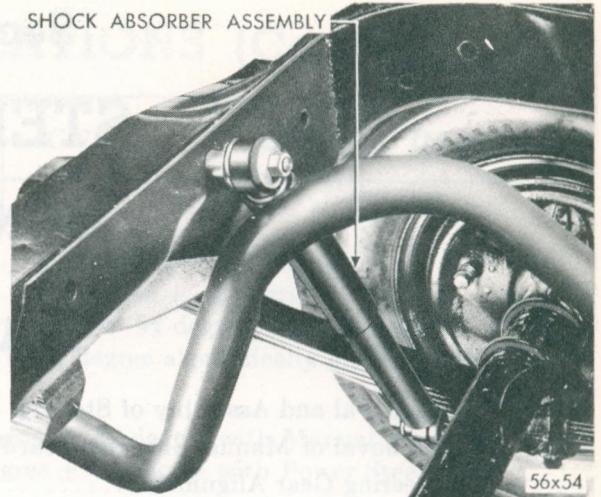

Fig. 14—Rear Shock Absorber Installed
11. REMOVAL AND INSTALLATION OF REAR SHOCK ABSORBERS (FIG. 14)